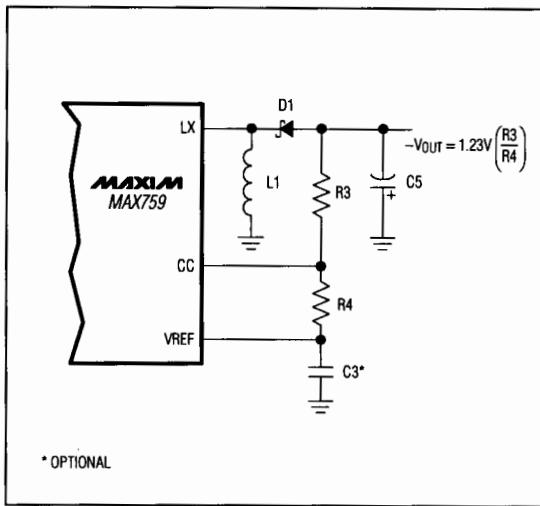

Figure 5. MAX759 Adjustable Output Voltage
**Note 2:** MAX759 output voltage tests are performed using an external resistor divider to set the output voltage to -5V (see Figure 5, R3 = 15kΩ, R4 = 3.69kΩ).
Adjust the MAX759's output voltage from 0V to -15V by selecting the appropriate external resistor divider (Figure 5). Output voltages beyond -15V require a transformer to protect the power MOSFET from overvoltage. With  $R_4$  feedback resistor (5k $\Omega$  to 15k $\Omega$ ), a compensation capacitor (typically 10nF) from the output to CC gives best transient-response characteristics. Be careful to observe the *Absolute Maximum Ratings* on the difference between input voltage and output voltage.